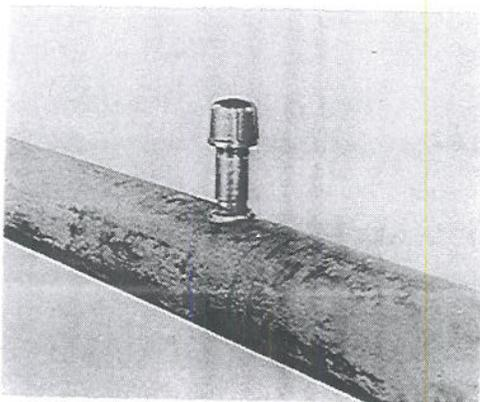

FIGURE 43
14. Apply non-hardening pipe thread "dope" to completion cap threads and screw cap tightly on nipple. **Figure 43.**